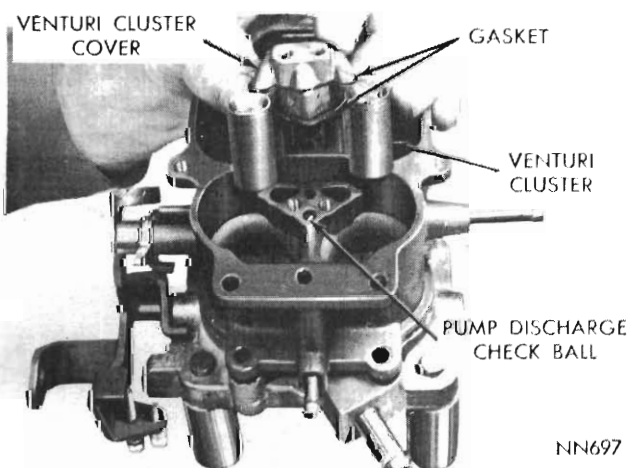

Fig. 4 - Removing or installing venturi cluster
(13) Remove the venturi cluster screws, then lift the venturi cluster and gaskets up and away from main body, as shown in (Fig. 4). Discard the gaskets.
(5) Install new gasket on venturi cluster, then install in position in the main body. Refer to (Fig. 4). Install the cluster screws and tighten securely.